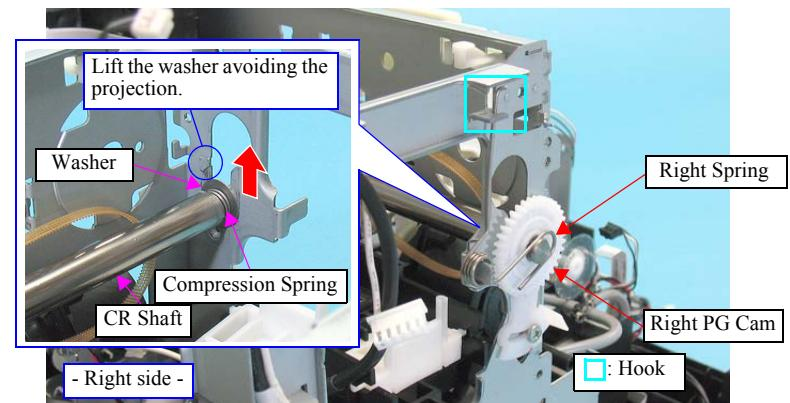

Figure 4-136. Removing the Carriage Assy (2)
- When installing the Right PG Cam, first attach the compression spring and then attach the washer as shown in Figure 4-136.